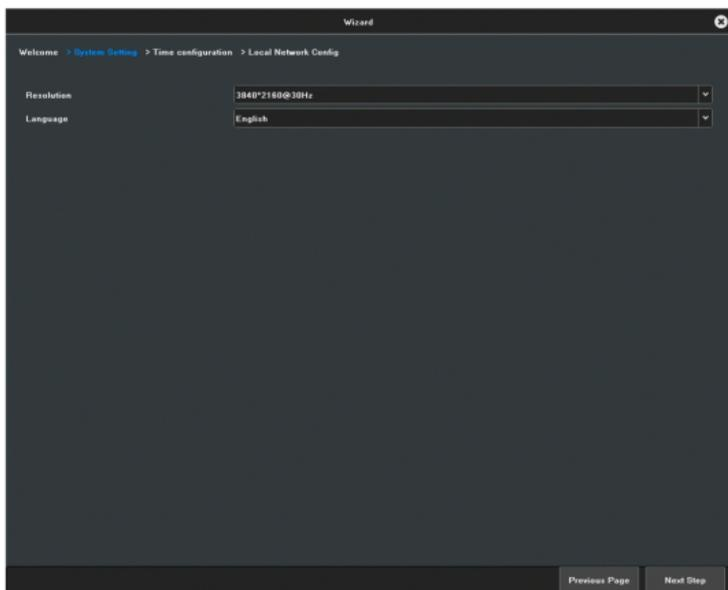

Figure 2.4 System Settings
- 2) Click on the **Next step** button to enter the system setting interface, as shown in Figure 2.4.